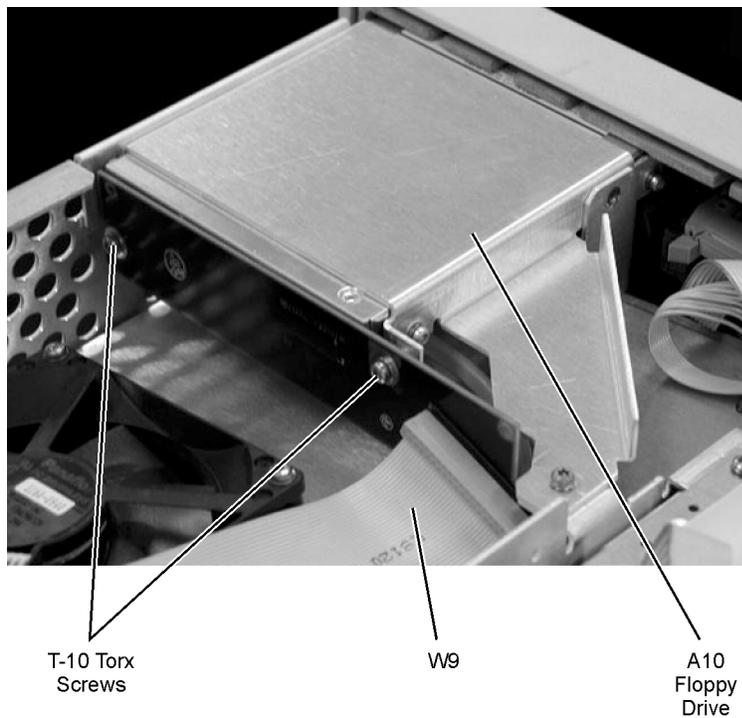

Figure 4-14. LS-120 and A-10 Floppy Drive
- 3 Using a T-10 TORX driver, remove the two screws that secure the A16 LS-120 board to the rear of the A10 floppy drive. Refer to Figure 4-14.
- 4 Remove the ribbon cable, W9. Refer to Figure 4-14.
- 6 Secure the A16 LS-120 Board to the A10 Floppy Drive with two, T-10 Torx Screws. Refer to Figure 4-14.
- 7 Secure the ribbon cable W9 to the A16 LS-120 Board. Refer to Figure 4-14.